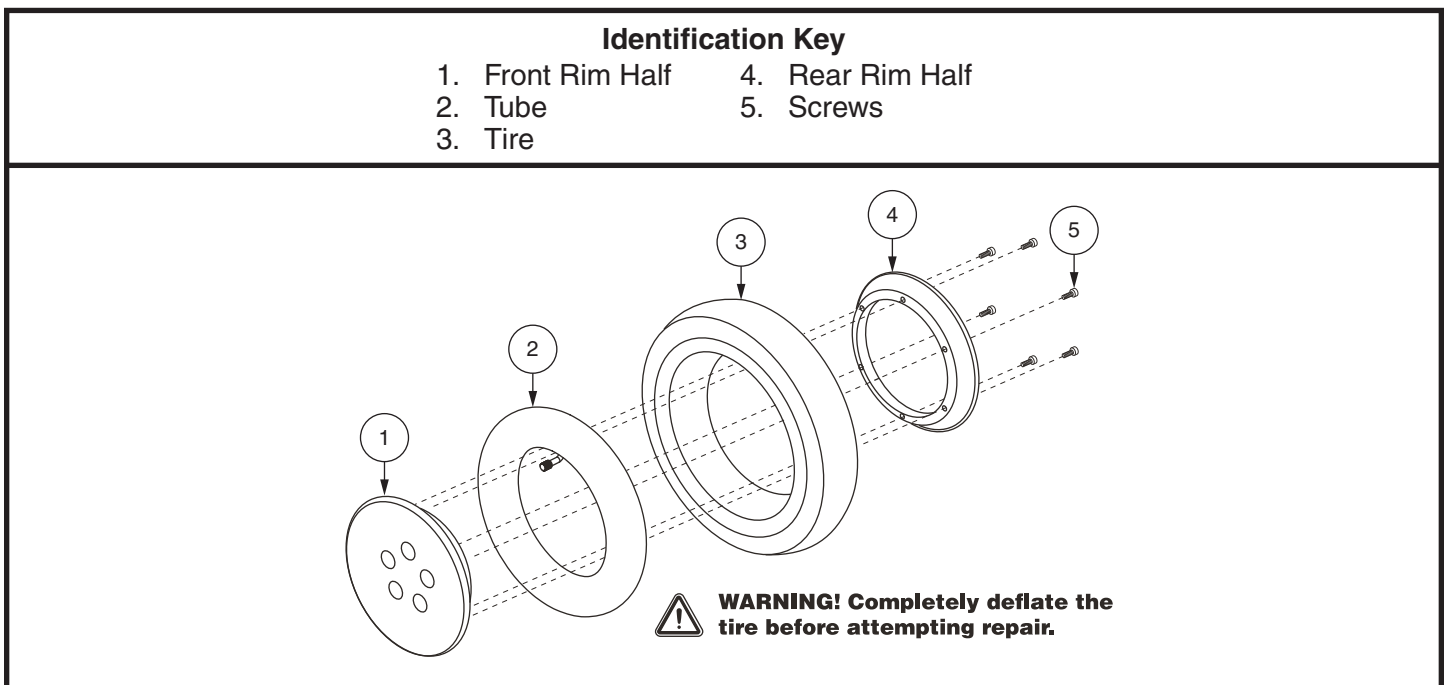

Figure 17. Aspen Drive Wheel Disassembled
6. Remove the screws and separate the front and rear rim. **See figure 17.**
10. Reinstall the five (5) lug nuts onto the wheel hub and tighten.